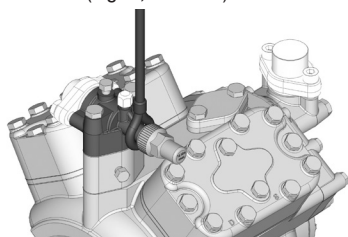
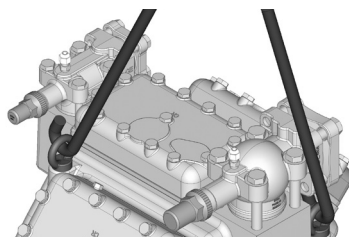

Fig. 8
Fig. 9
- Transport and suspension unit on the eyebolt (Fig. 9, F14 to F16) or direct on the discharge line valve (Fig. 8, F2 to F5).